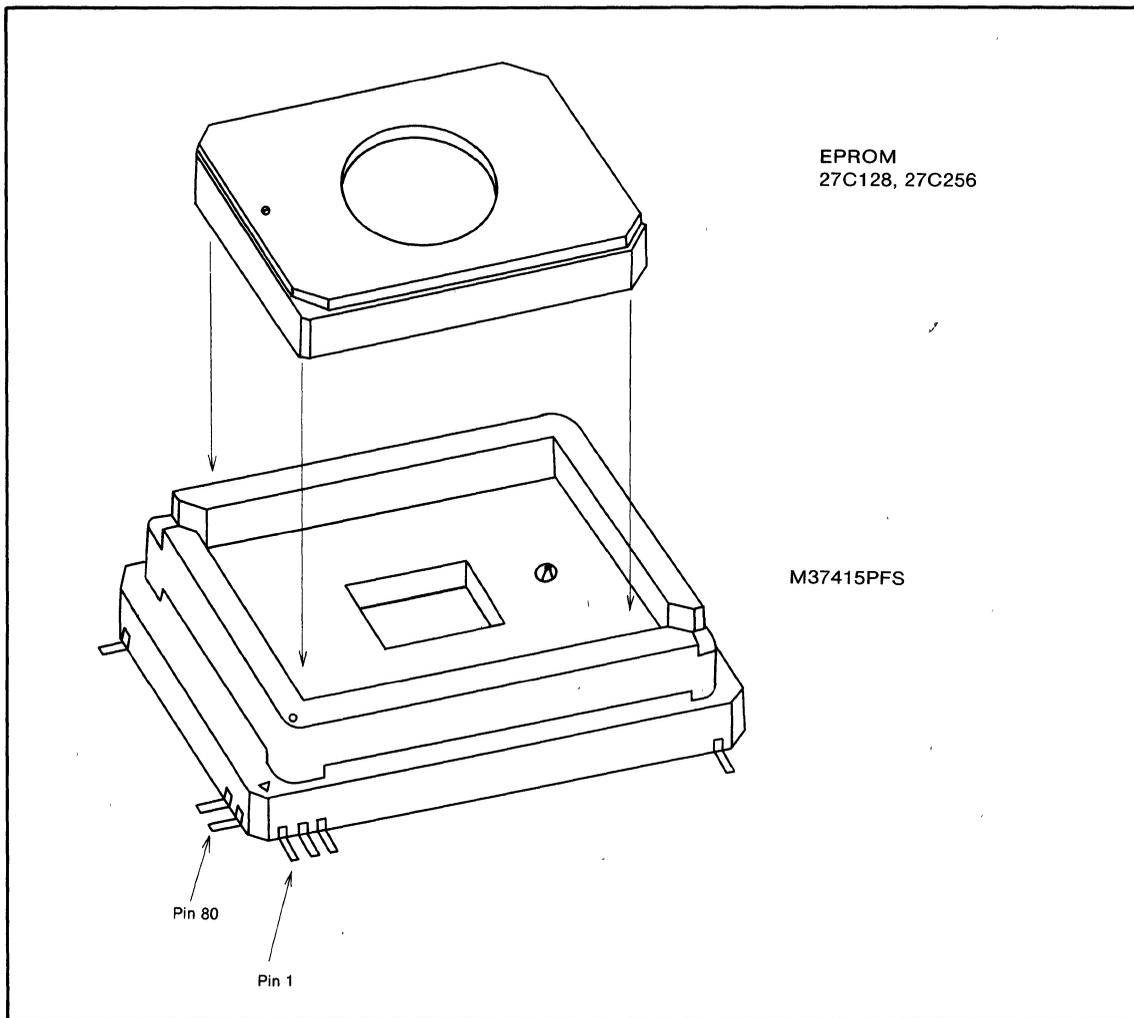

Fig.3 How to mount an EPROM
- (3) The way of mounting an EPROM is shown in Figure 3.